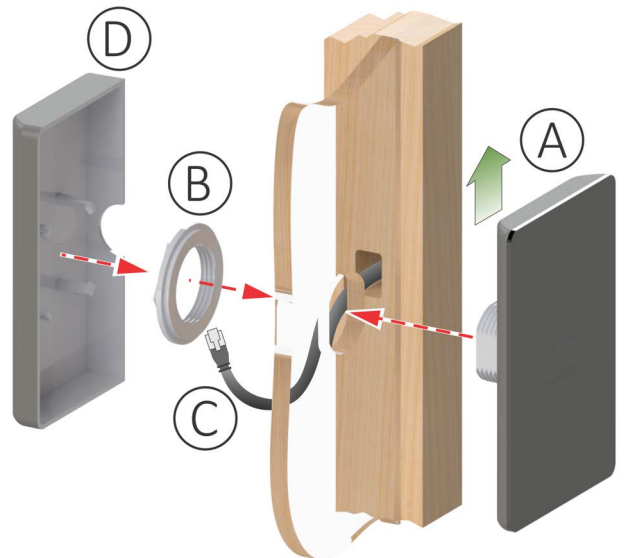

Figure 23. Installing the Control
1. Locate the keyed circular hole in the front glass for mounting the control. The control will mount on the exterior of the glass. See Figure 23. for the remaining steps.
2. Orient the UP arrow on the back of the control (A) and insert the threaded tube through the keyed circular hole in the glass.
3. Attach the control to the glass from the interior using the threaded retaining ring (B).
4. Connect the RJ11 control cable (C) to the female RJ11 jack located inside the threaded tube of the control.
5. Neaten up the control cable, then attach the back cover (D) over the threaded retaining ring (B).